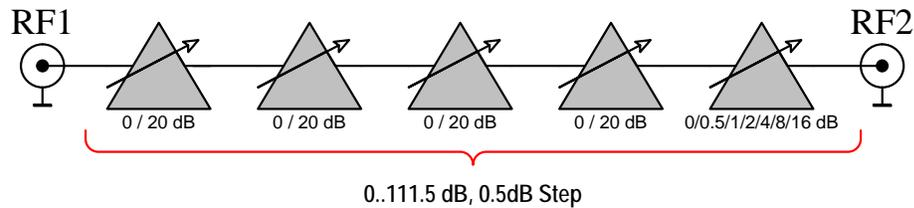

Figure 1: Block diagram of AT8 electronic attenuator
Figure 1 shows the block diagram of electronic attenuator, the main block of the instrument. It consists of five digitally controlled attenuators. First four attenuators operate with 20 dB step (can be set 0 or 20 dB), the fifth attenuator has 0.5 dB step in range 0 to 31.5 dB attenuation. Connected in series they result in 0 to 111.5 dB attenuation range with 0.5 dB step. RF1 and RF2 ports can be used as input or output. Internal attenuators are based on electronic switches, so they feature long lifespan and fast switching, but relatively high insertion loss (IL) compared to mechanical switches. IL is a minimum attenuation value when all internal attenuators are set to 0 attenuation. Total insertion loss of the instrument depends on frequency, and can vary from 0.5 dB at low frequencies to about 20 dB at high frequency. AT8 is factory calibrated, which means that when user sets the desired attenuation value, the instrument automatically takes into account the insertion loss and errors of each internal attenuator at given frequency, and sets the nearest possible attenuation value.